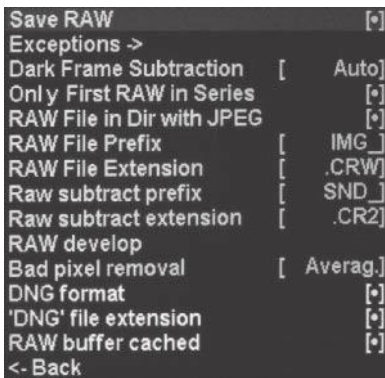

Figure 4-33
- **Disable RAW @ Burst.** Burst mode is faster when not shooting RAW. There is also an option in the main *RAW* menu (Figure 4-33) to shoot the very first shot of a series as RAW but the following shots as JPEGs.